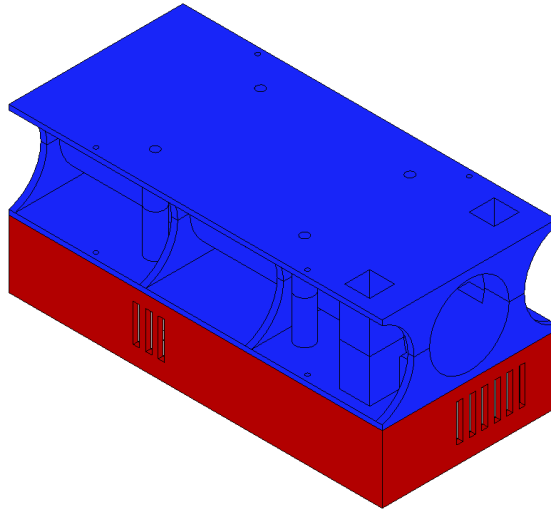

Figure 33: *Upper PVC adapter* attached on top of the *lower PVC adapter*.
3. Attach the *upper PVC adapter* on top of the *lower PVC adapter*. Use four M4 screws for this process. Leave the assembly aside once finished. The result of the assembly is shown on figure 33.